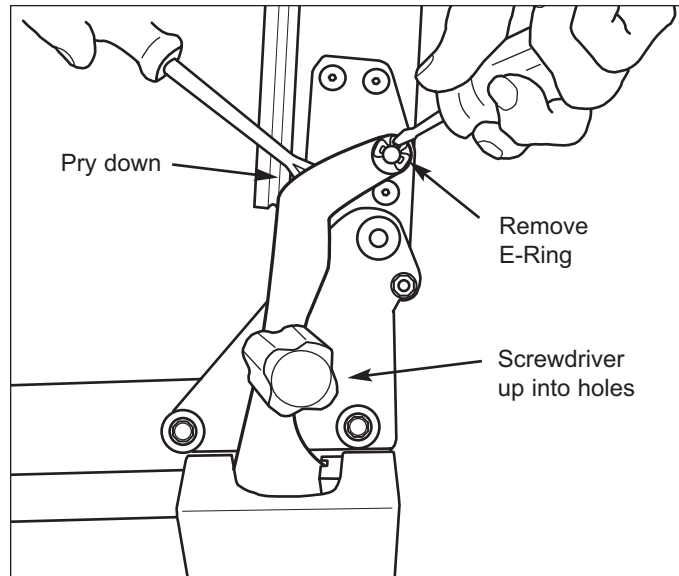

Figure 7-26. Door Closer Disconnect
**Door Closer Disconnection** - To disconnect a door closer (See Figure 7-26):